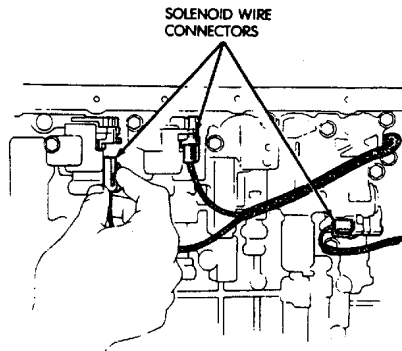

Fig. 9 Solenoid Wires
(14) Disconnect solenoid wires (Fig. 9).